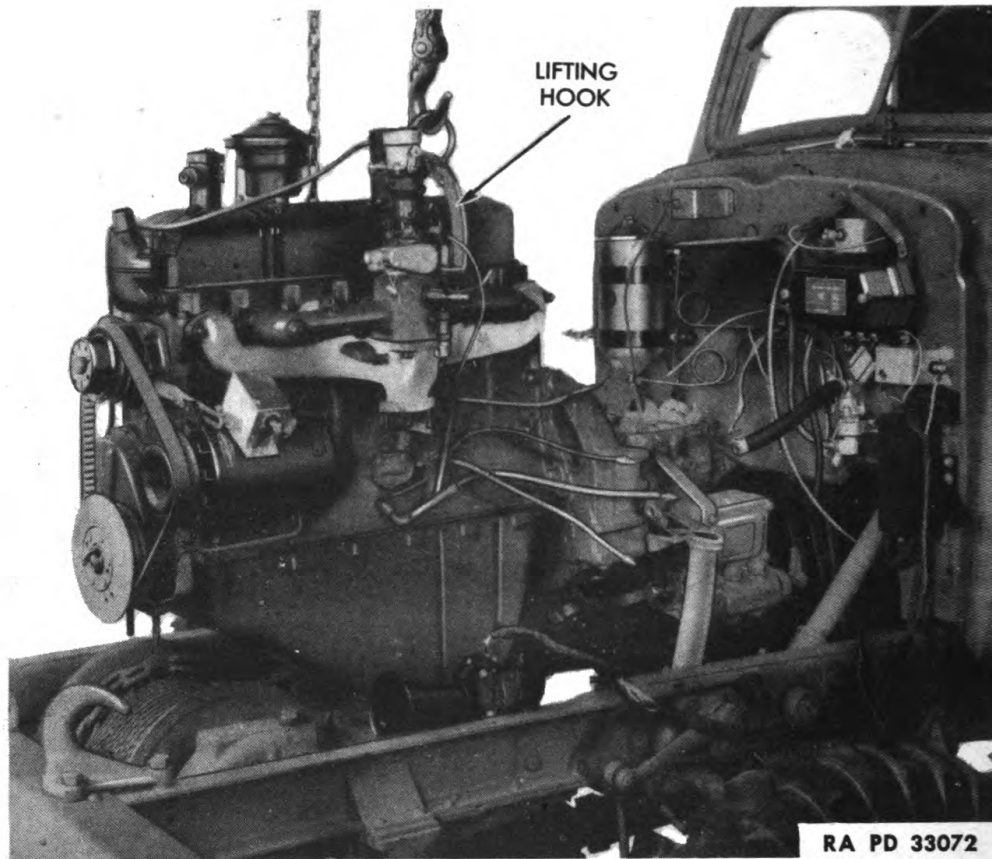

Figure 32—Engine Assembly Removal
e. Remove Engine (fig. 32). Disconnect the front and rear engine mountings. If vehicle is equipped with transmission power take-off, remove left engine mounting. Remove steam relief tube and temperature indicator fitting. Remove the third cylinder head bolt from the rear on the left side, and install the engine lifting eyebolt. Connect a chain fall to the eyebolt and raise the engine, clutch, and transmission from the chassis as a unit. If this engine is to be